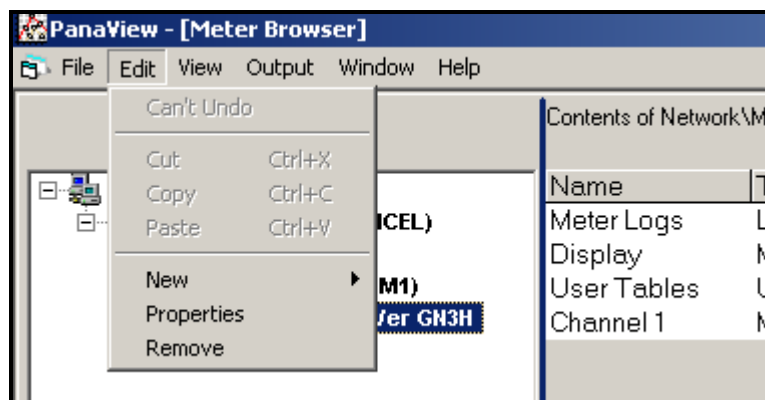

Figure C-8: *Properties* Option in the *Edit* Menu
2. Open the “*Edit*” menu and select the “*Properties*” option, as shown in Figure C-8 below.